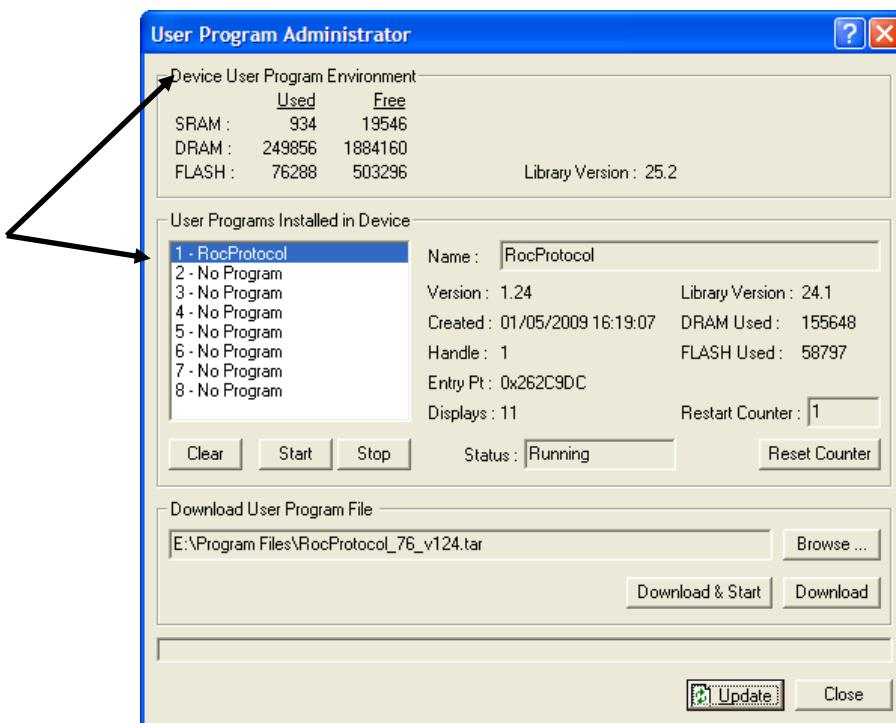

Figure 6. User Program Administrator
10. Click **OK**. The User Program Administrator screen displays (see *Figure 6*). Note that: